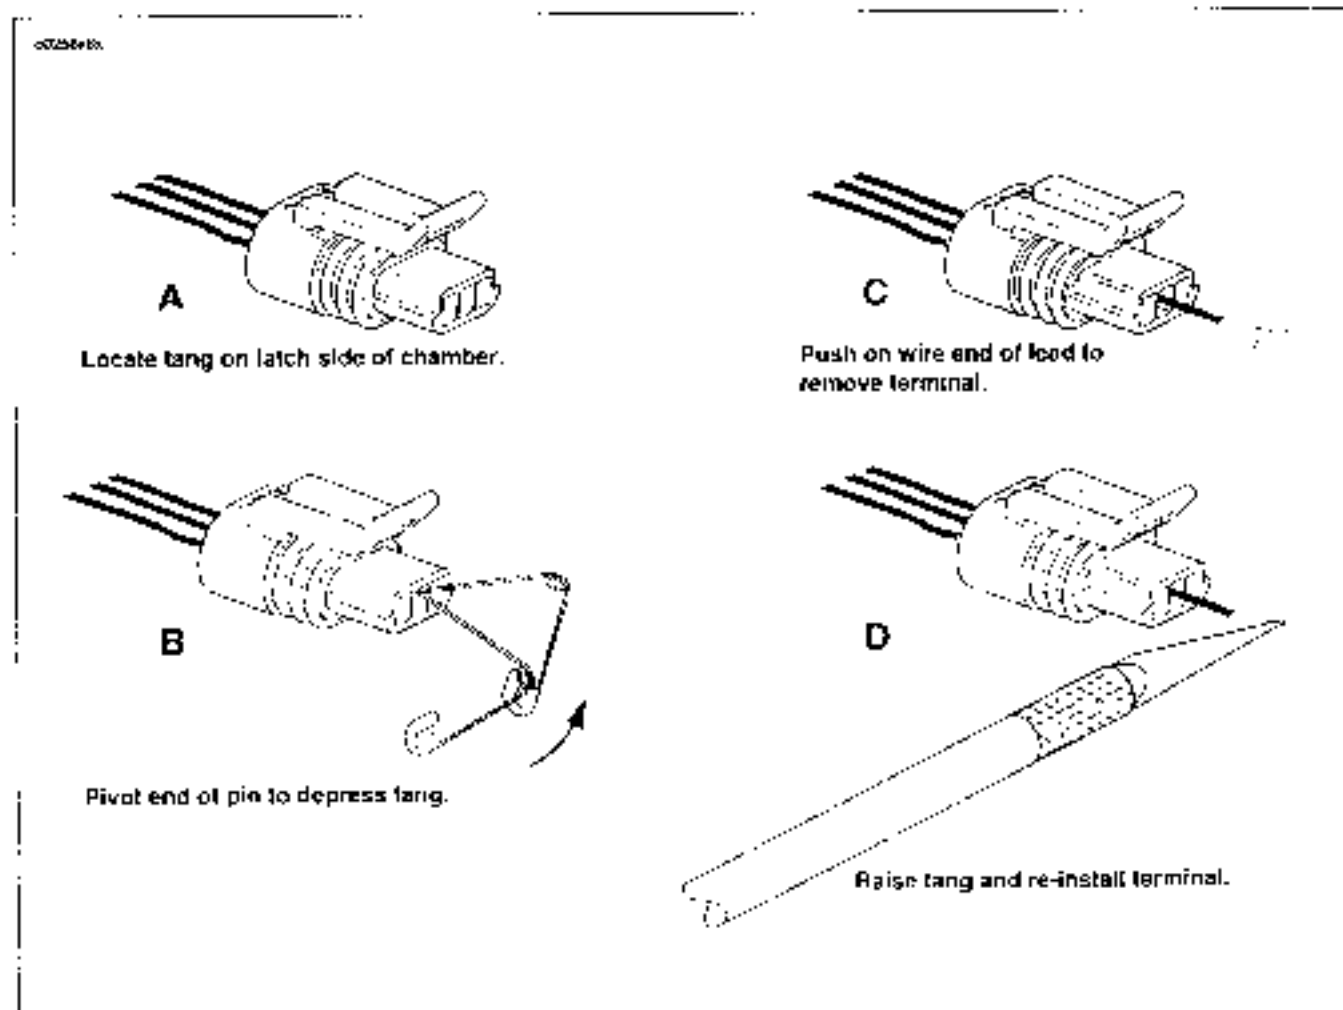

Figure B-20. Packard Connectors
Two types of Packard pull-to-seat electrical connectors are used. One type has an external latch to lock the pin and socket halves together, while the other makes use of a wire-form. See Figure B-20. The manner in which the terminals are picked off varies between these two types of connectors, as further described below.
3. To free a pull-to-seat terminal from the connector housing, first look into the mating end of the connector to find the locking tang. See A in Figure B-20. The tangs are always positioned in the middle of the chamber and are on the same side as the external latch. On those connectors with locking ears, the tang is on the side opposite the ear.
4. At a slight angle, gently insert the point of a one inch safety pin down the middle of the chamber (about 1/8 inch) and pivot the end of the pin toward the terminal body. When a click is heard, remove the pin and repeat the procedure. See B in Figure B-20. The click is the sound of the tang returning to the locked position as it slips from the point of the pin. Pick at the tang in this manner until the clicking stops and the pin seems to slide in at a slightly greater depth than it had previously. This is an indication that the tang has been depressed.
5. Remove the pin and push on the wire end of the lead to extract the terminal from the mating end of the connector. See C in Figure B-20. If necessary, pull back the conduit and remove the wire seal at the back of the connector to introduce some slack in the wires.
1. To install a terminal back into the chamber of the connector housing, use a thin flat blade, like that on an X-Acto knife, and carefully bend the tang outward away from the terminal body. See D in Figure B-20.